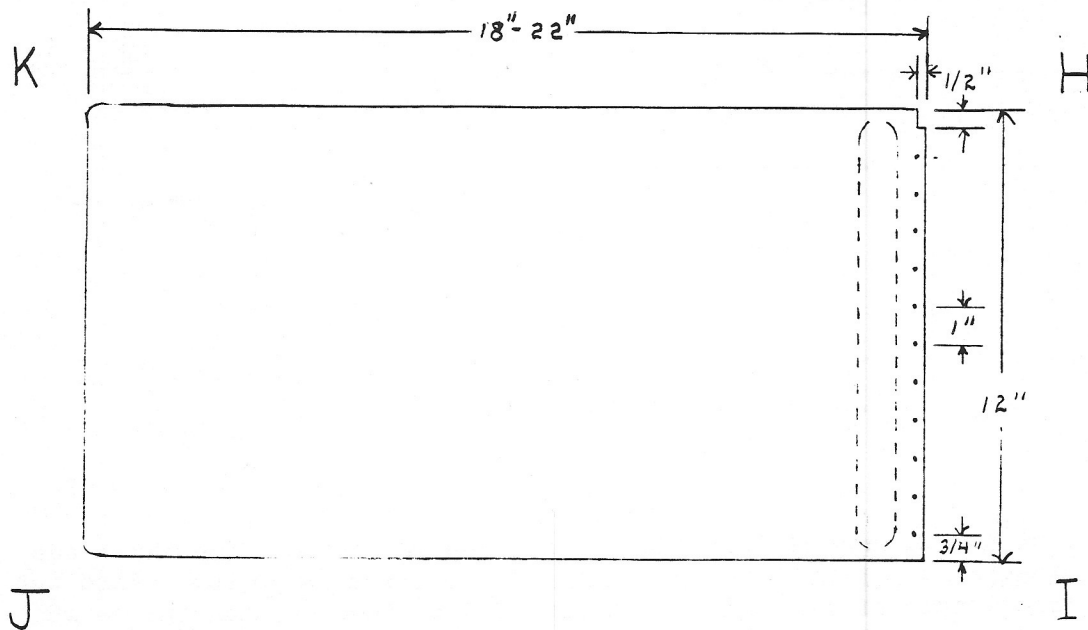

Fig. 5 Lap Tray (top view, look down through support)
- 4) Cut a $1/4"$ X $1/2"$ notch at corner H and remove sharp corner at I by filing it slightly (Fig. 5).
- 5) Drill 11 holes centered $1/4"$ from side HI beginning $3/4"$ from side IJ and continuing at $1"$ intervals to side KH using a $5/32"$ drill bit (Fig. 5)
- 6) Round off the corners and edges of the $11\ 1/2"$ X $1"$ Lexan guard and attach it to the bottom side of the support $3/4"$ from side HI and $1/4"$ from side IJ with polycarbonate adhesive (Fig. 5).